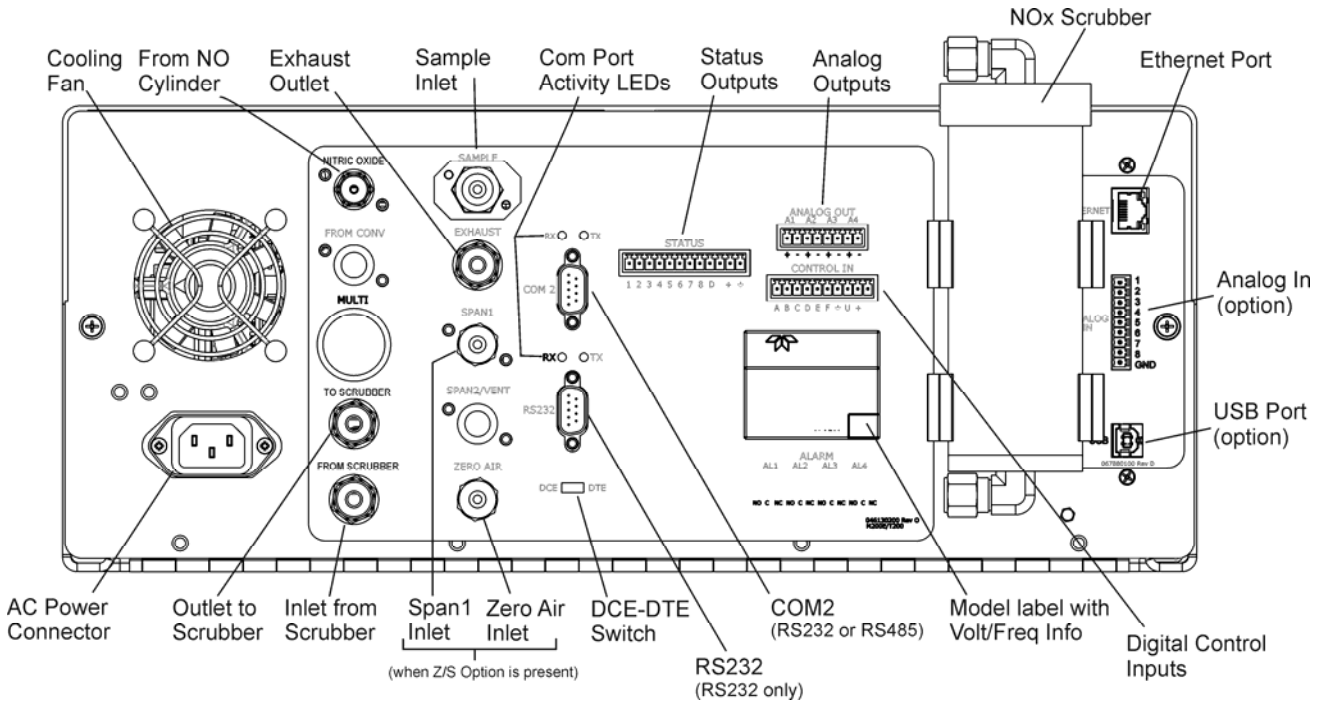

Figure 3-2. Rear Panel
Figure 3-2 illustrates the layout of the Model T265 analyzer's rear panel.
1. Refer to Figure 3-2 for the rear panel electrical and pneumatic connectors.
7. Using 1/8” stainless steel tubing, attach a cylinder with 10,000 ppm \pm 10% of nitric oxide (NO) in nitrogen (N₂), with an appropriate pressure regulator, to the 1/8” stainless steel port (labeled NITRIC OXIDE) on the rear panel as shown in Figure 3-2. Note: The NO cylinder’s pressure regulator should be set to deliver gas at 20 PSIG \pm 5 PSIG.